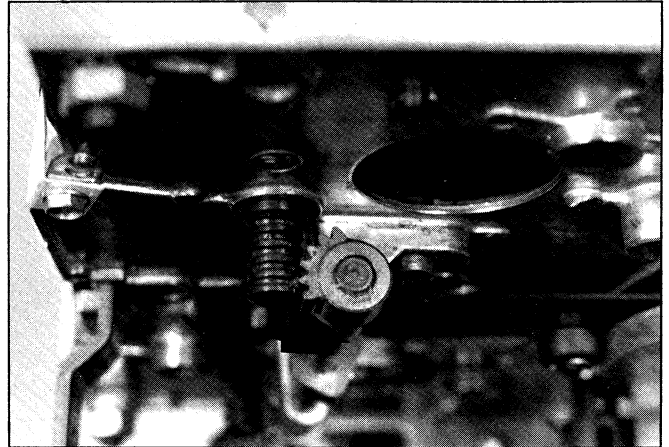
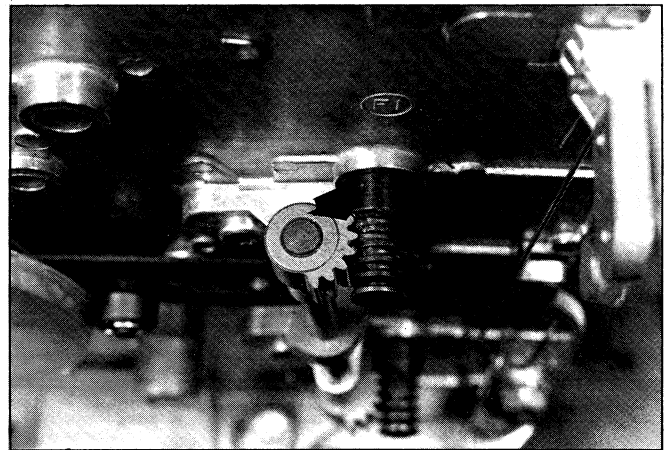
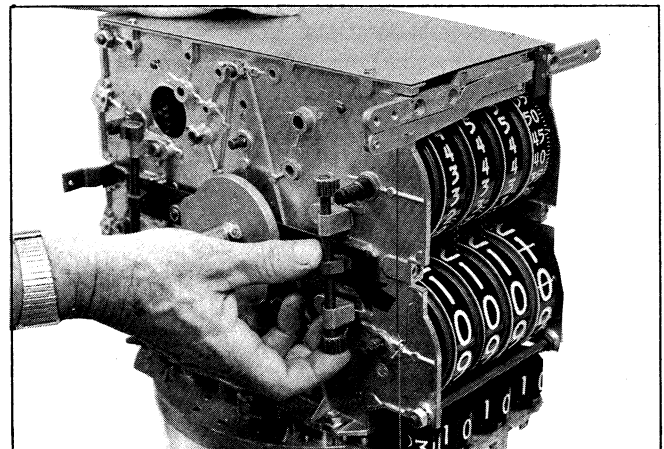

Figure 36. Segment gear outer tooth overlapping end of rear wheel shafts.
Figure 37. Segment gear inner tooth meshing with innermost groove in front wheel shafts.
Figure 38. Engaging rocker shaft group lever into slot and bar.
- h. Assemble rocker shaft group into place so the outer tooth on the segment overlaps the end of the **rear wheel shaft**, Figure 36, or the inner tooth of the segment gear enters the innermost groove in the **front wheel shaft**, Figure 37. It is best to engage rocker shaft group lever into slot and bar before aligning teeth, Figure 38.